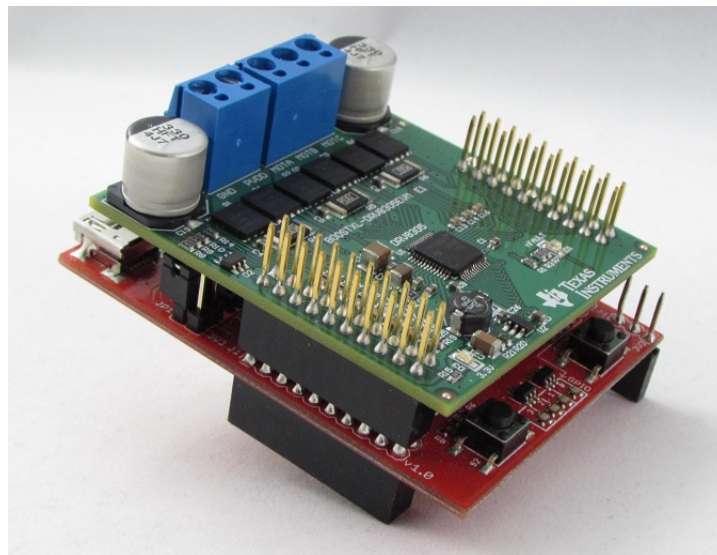

Figure 5. BOOSTXL-DRV8305EVM With LAUNCHXL-F28027F
1. Plug the BOOSTXL-DRV8305EVM BoosterPack onto the LaunchPad as shown in Figure 5. The terminal block headers should be oriented towards the USB connector and the 20-pin headers (J1 and J2) should align properly.